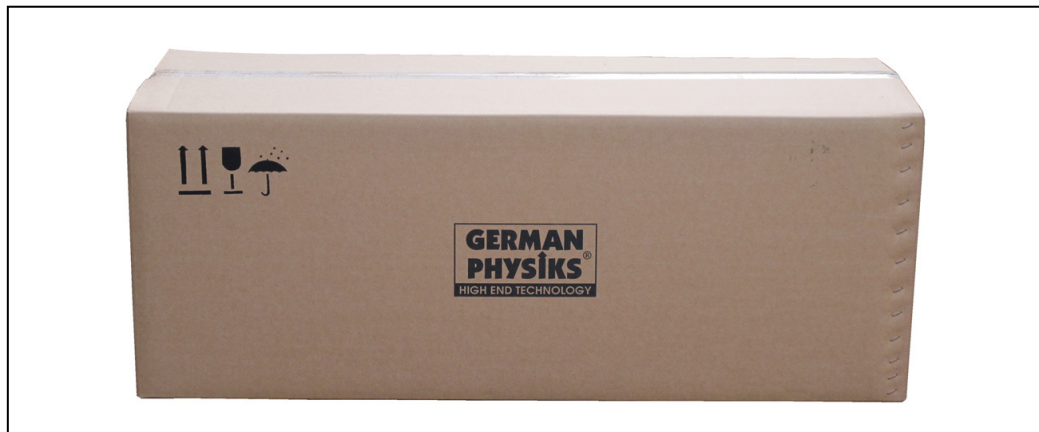

Figure 1. Unlimited Mk II Shipping Carton
The Unlimited Mk II is supplied with each loudspeaker packed separately in a double carton. This must be kept horizontal as shown in figure 1. Before opening the cartons, please inspect them for damage. If you see any damage, please contact the supplying audio dealer immediately and provide them with a full description of the damage. Do not attempt to unpack the loudspeakers until you have spoken with the dealer and have been advised how to proceed.
1. Place the carton upright as shown in figure 1 and carefully cut the sealing tape.